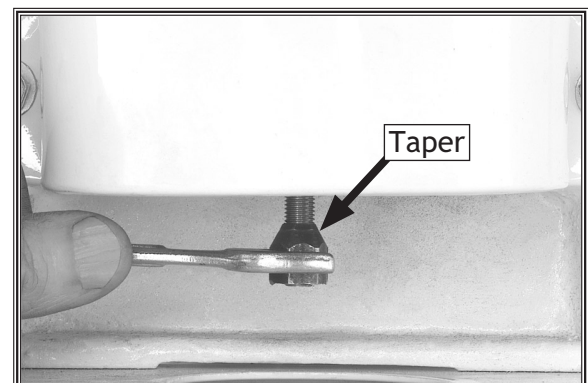

Figure 14. Threading on drawbar nut with the tapered end up.
14. Using a 14mm open-end wrench on the drawbar nut, (**Figure 14**), make sure the drawbar nut is tight, but **DO NOT** over-tighten the drawbar nut.